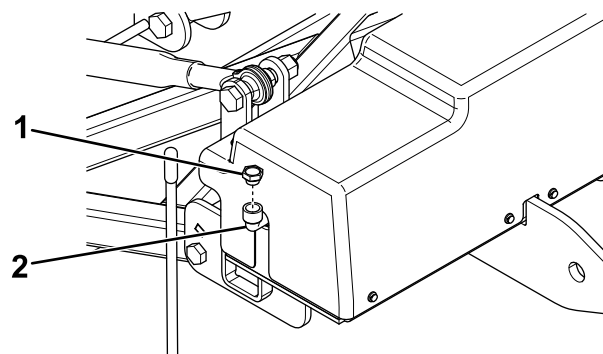

Figure 13
- Remove the fill cap from the hydraulic reservoir on the side of the coupler assembly (Figure 13).